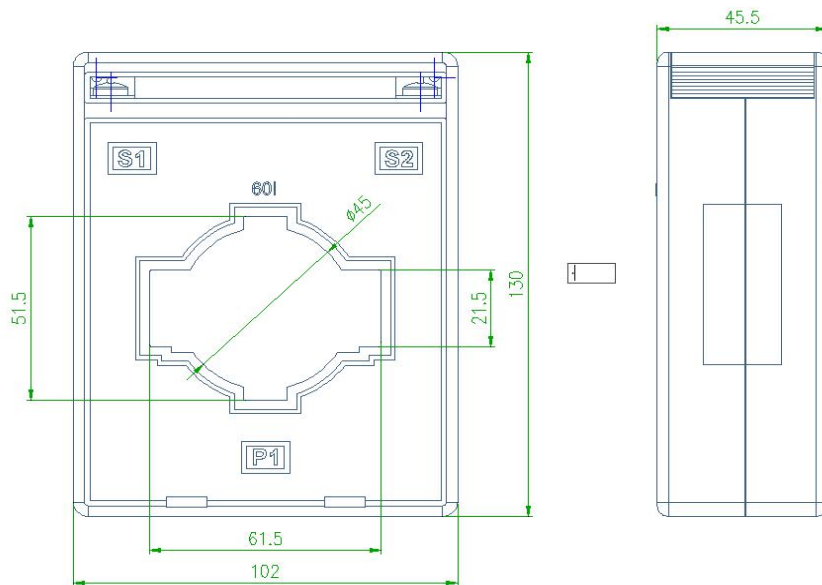

Fig. 7 External dimensions of current transformer 800A
5.4.3 The external dimensions of the current transformer (800A) are shown in FIG. 7 (unit: mm) :